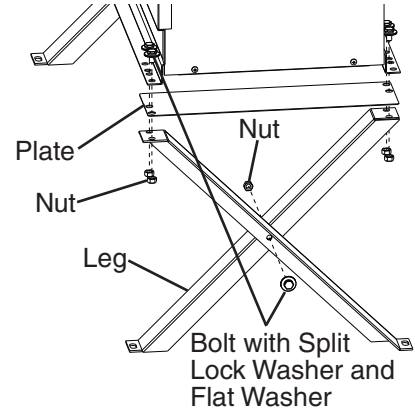

Fig. 18
- 1) Assemble 2 sets of legs using the legs, bolts, and nuts provided. See Fig. 18.